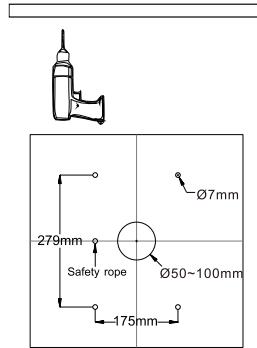

Figure 2
2. Use electric drill to set fixed holes through the ceiling. (Figure 2)